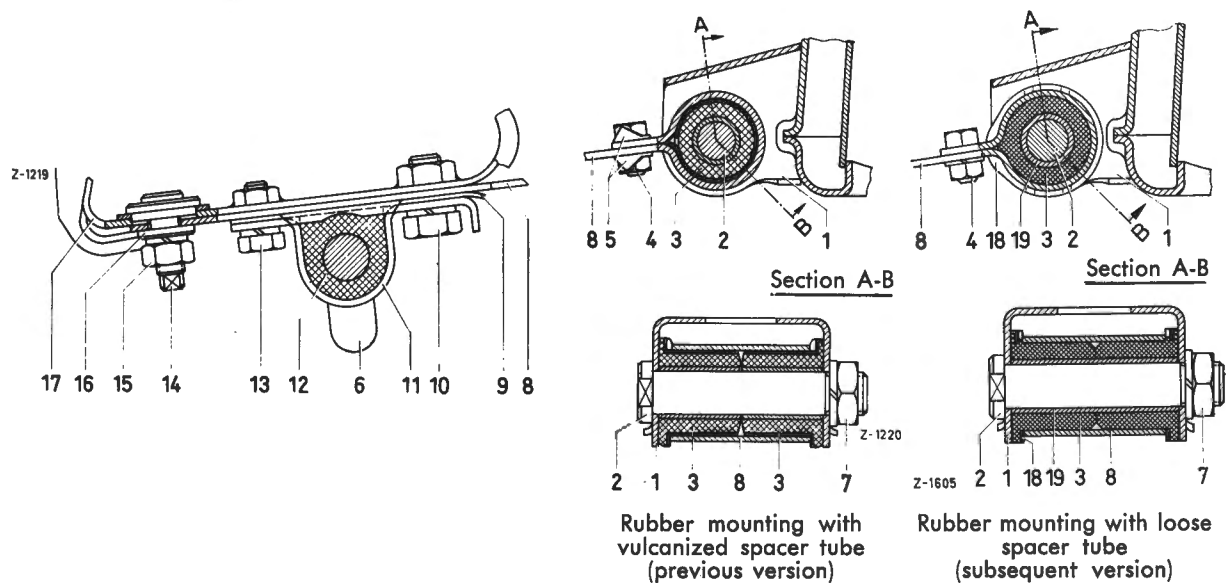

Fig. 33-3/2
7. Fasten the flat spring to the front axle support; but do not yet tighten the hexagon nut (7) (Fig. 33-3/2).
8. Fasten the flat spring together with the torsion bar to the chassis base panel making sure that the locking plate (9) and the rubber mounting in the bracket (11) are correctly positioned (Fig. 33-3/2). For the prescribed torque see Job No. 33-0.
9. Tighten the two hexagon screws (clamping screws) (4) with the prescribed torque (see Job No. 33-0) (Fig. 33-3/2).
b) On recent cars the clamping screws are no longer secured by means of locking plates, but by lock washers (Fig. 33-3/2).
10. Tighten the hexagon nut (7) for the bolt (2) on the front axle support (for prescribed torque see Job No. 33-0).